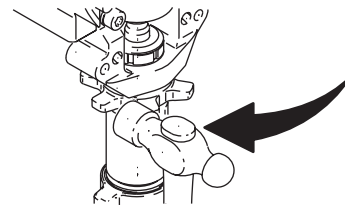

FIG. 18
6. FIG. 18. Loosen locknut with a wrench. Unscrew pump.